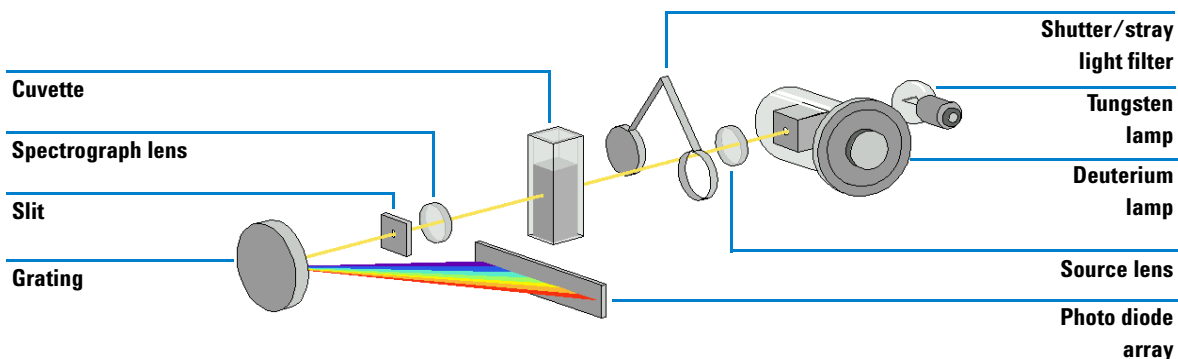

Figure 1 Optical System of Spectrophotometer
The optical system of the spectrophotometer is shown in Figure 1. Its radiation source is a combination of a deuterium-discharge lamp for the ultraviolet (UV) wavelength range and a tungsten lamp for the visible and short wave near-infrared (SWNIR) wavelength range. The image of the filament of the tungsten lamp is focused on the discharge aperture of the deuterium lamp by means of a special rear-access lamp design which allows both light sources to be optically combined and share a common axis to the source lens. The source lens forms a single, collimated beam of light. The beam passes through the shutter/stray-light correction filter area then through the sample to the spectrograph lens and slit. In the spectrograph light is dispersed onto the diode array by a holographic grating. This allows simultaneous access to all wavelength information. The result is a fundamental increase in the rate at which spectra can be acquired.